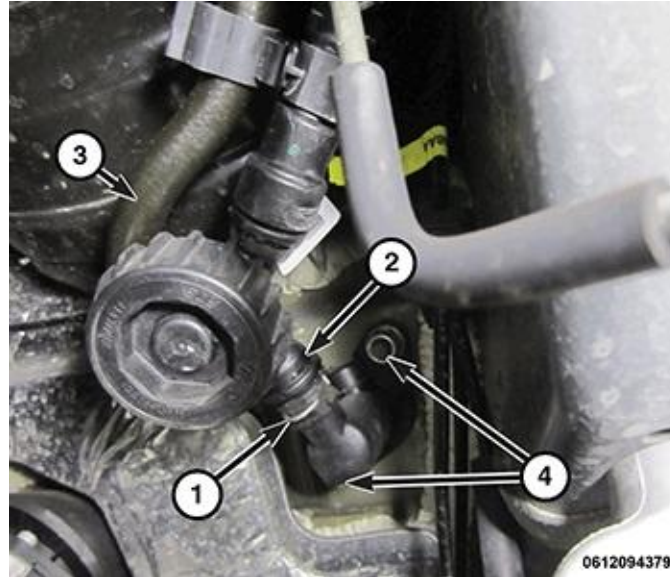

Fig. 2 Clutch Master Cylinder
5. Remove the high pressure line clip (1) and disconnect the high pressure line (2) from the master cylinder (Fig. 2).
6. Remove the two hydraulic clutch master cylinder nuts (4) (Fig. 2).
10. Install the hydraulic clutch master cylinder nuts (4) and tighten to the proper (Torque Specifications) (Fig. 2).
11. Install the new hydraulic clutch master cylinder supply hose (3) and install the clamp (Fig. 2).
12. Install the hydraulic clutch master cylinder high pressure line (2) and clip (1) (Fig. 2).